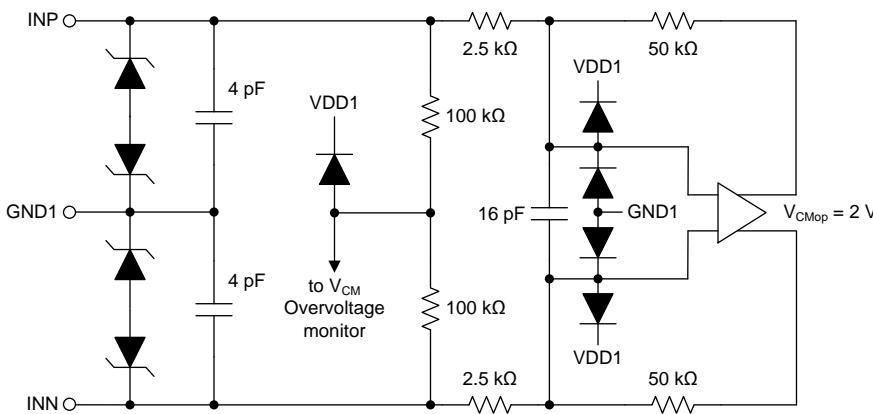

Figure 47. Equivalent Analog Input Circuit
(1) The typical value includes one sigma statistical variation.
(2) See Figure 47.
Figure 47 depicts the equivalent input structure of the AMC1302-Q1 with the relevant components. The total gain of the device results from a combination of the gain of the fully-differential input amplifier and the gain of the active output filter.